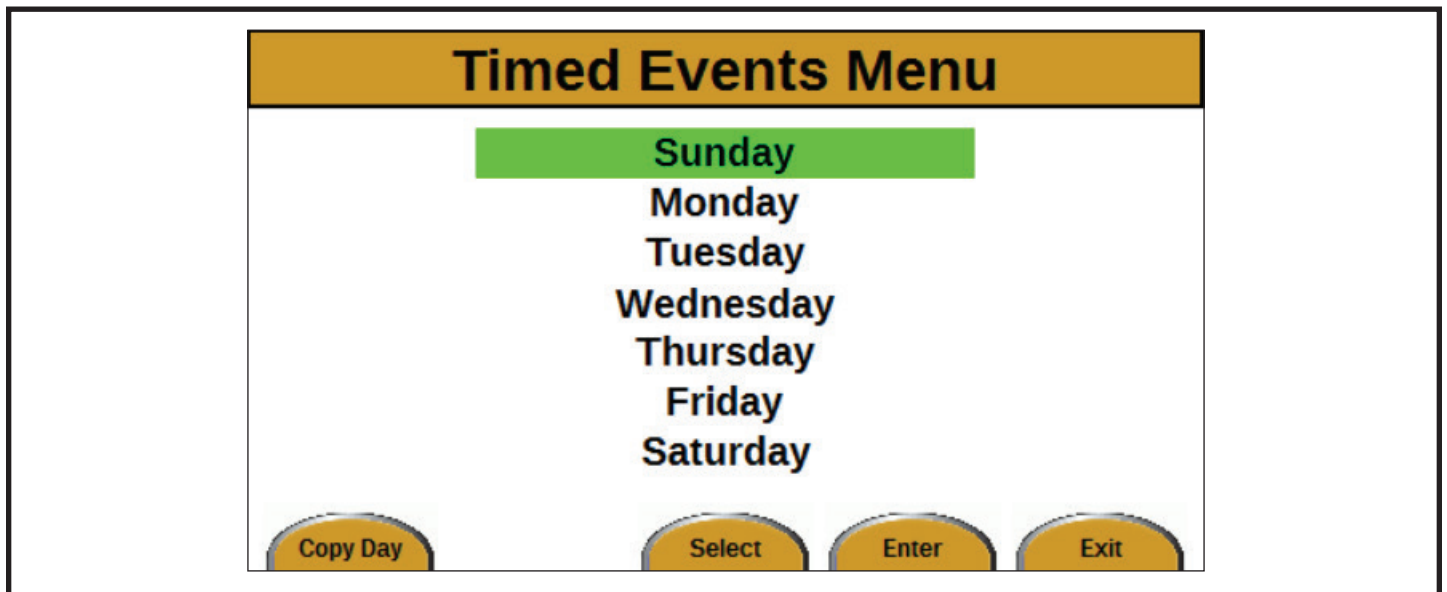

Figure 6
3. Press the Enter button. The Timed Events Menu screen will appear (see *Figure 6*).